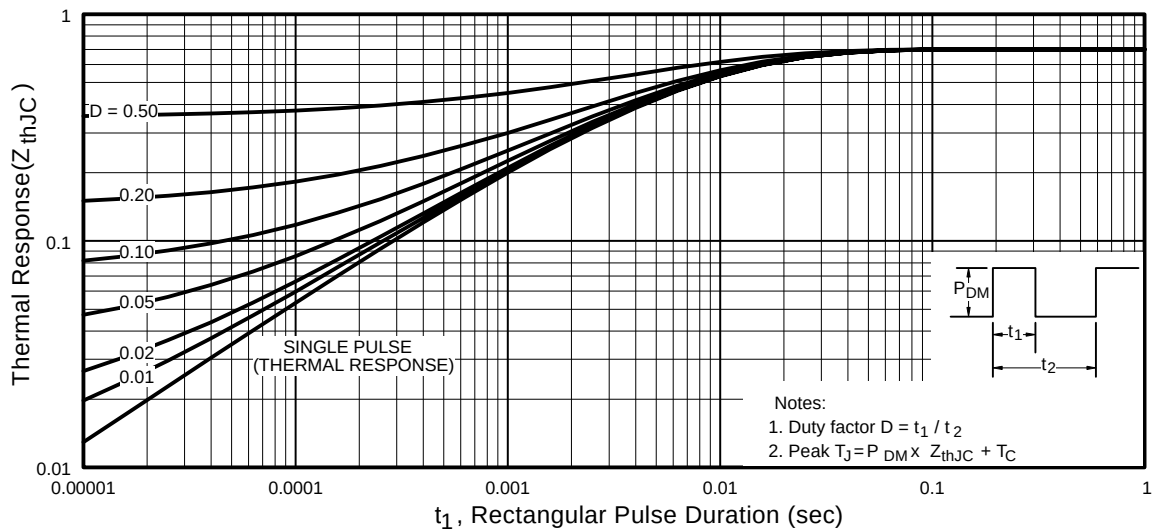

Fig 11. Maximum Effective Transient Thermal Impedance, Junction-to-Case
① Repetitive rating; pulse width limited by max. junction temperature. (See Fig. 11)
② Starting $T_J = 25^\circ\text{C}$, $L = 1.9mH$